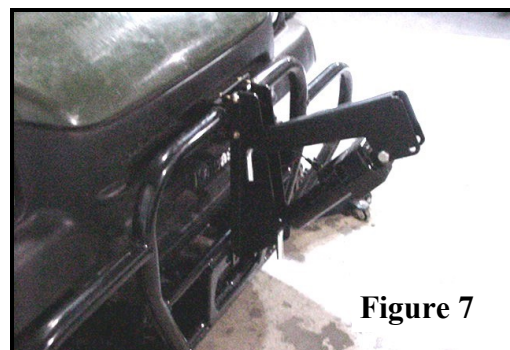

Figure 7
**E) (FIG. 7)** Install the electric lift cylinder to the chassis brackets with the other  $\frac{1}{2}$ " quick release pin and to the lift arm with  $\frac{1}{2}$ " bolt provided.